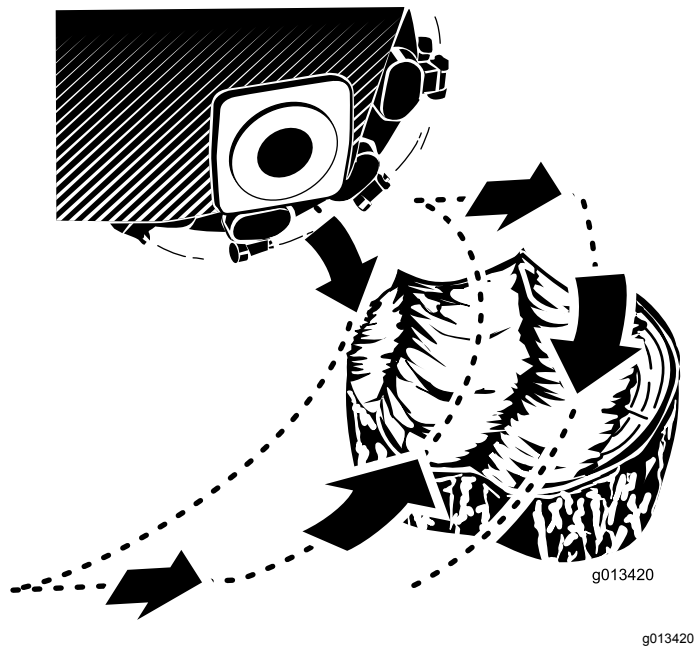

Figure 17
2. Use the grinder control lever and the traction control to position the grinder to the side of the front of the stump, about 2 cm (1 inch) below the surface (Figure 17).
4. Use the grinder control lever to swing the grinder slowly across the face of the stump, cutting away a swath of chips (Figure 17).
5. Move the machine forward a few centimeters (inches) and repeat step 4 (Figure 17).
6. Repeat steps 4 through 5 until you have ground off the entire face of the stump (Figure 17).